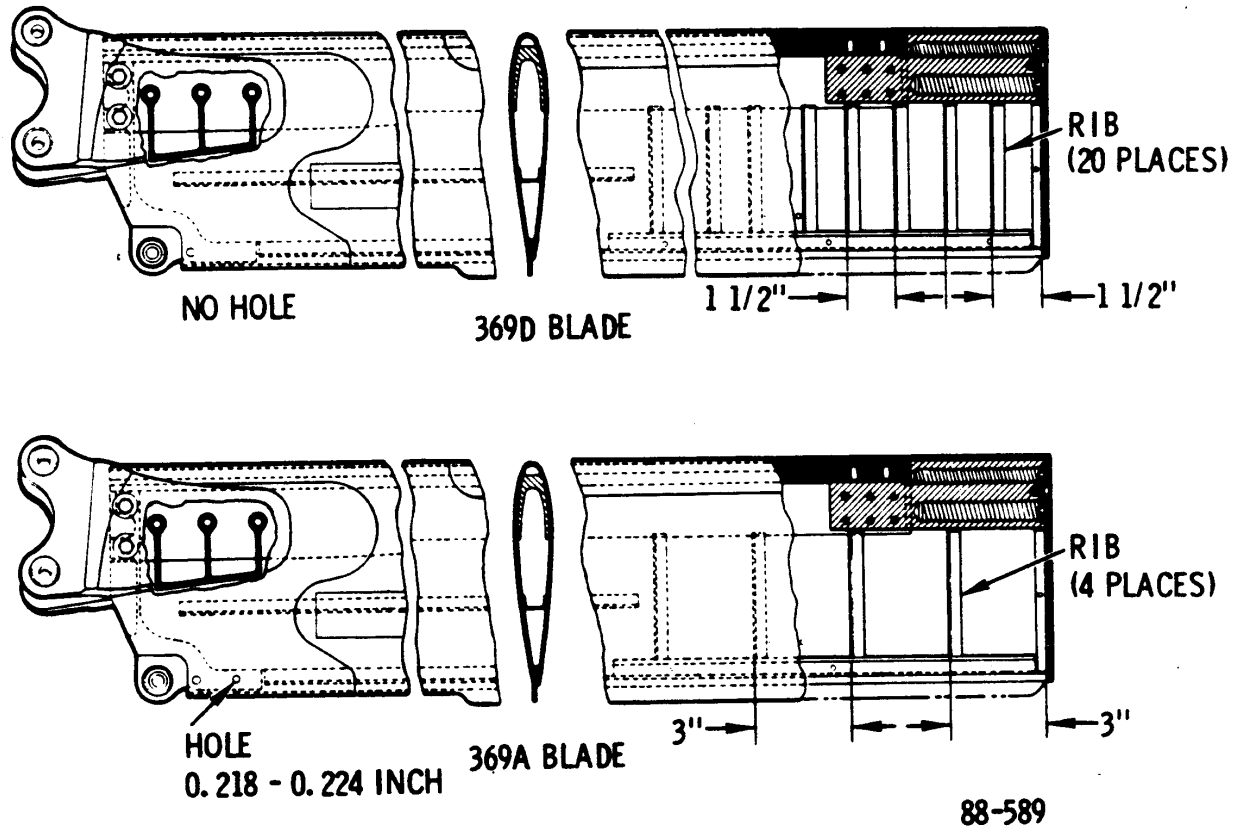

Figure 1. Bogus 369D Main Rotor Blade Identification
- (1). The coin tap test can be used to identify the number of ribs in the blade. Carefully tap along the length of the blade, from the tip end, using a heavy coin, e.g., U. S. quarter, half dollar, or equivalent. Note the number of ribs in the blade by the difference in sound. The 369D blade has 20 ribs, 1.5 inches apart, beginning 1.5 inches from the blade tip. The 369A Series blade has only four ribs, three inches apart, beginning three inches from the blade tip. (See figure 1.)
- (2). The bogus 369D blades have a painted over, flush plug installed to fill a 0.218 - 0.224 inch diameter hole required in all 369A1100 Series blades. (See figure 1.) There is no such hole or plug in 369D blades